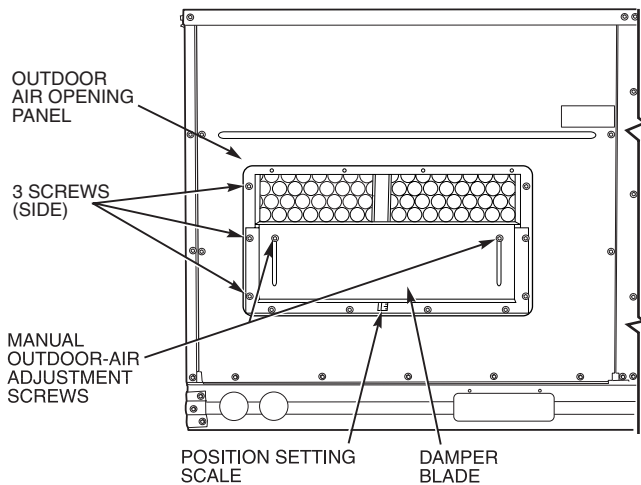
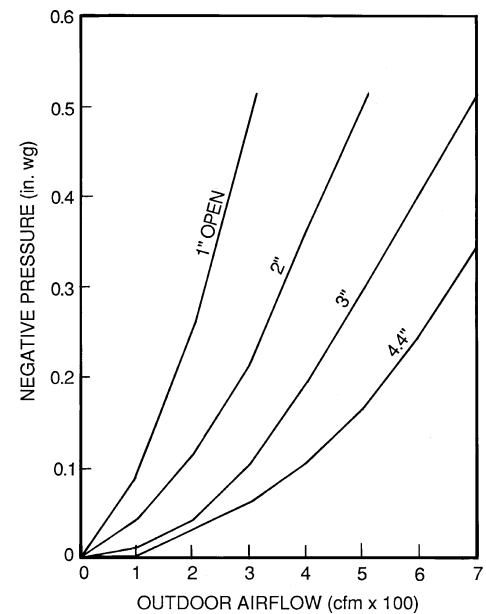

Fig. 13 — Damper Panel with Manual Outdoor-Air Damper Installed
Fig. 16 — Position Setting
2. Remove and save outdoor air opening panel and screws. See Fig. 13.
8. Adjust minimum position setting of the damper blade by adjusting the manual outdoor-air adjustment screws on the front of the damper blade. See Fig. 13. Slide blade vertically until it is in the appropriate position determined by Fig. 16. Tighten screws.